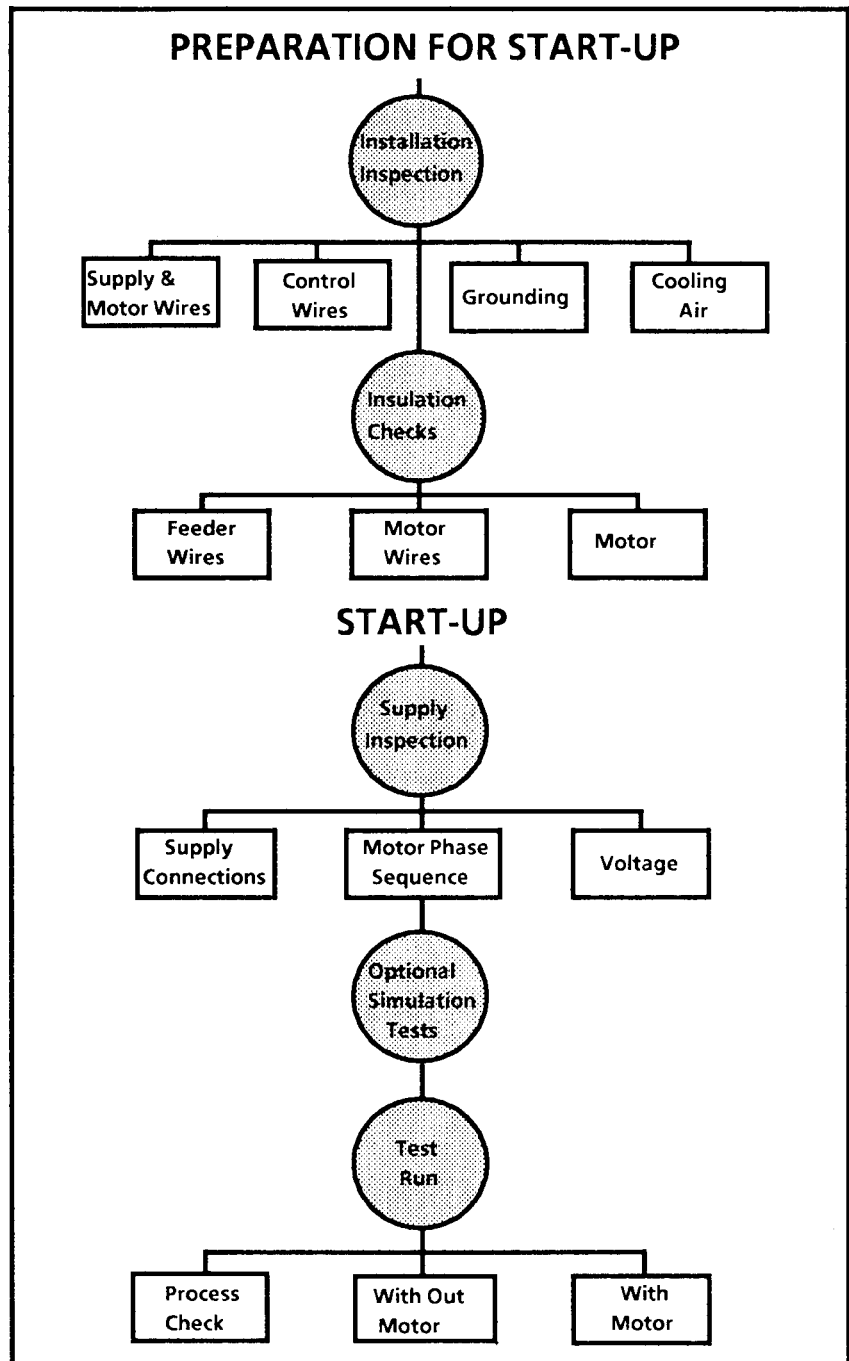

Figure 4-1. Start-Up Sequence
- A. Familiarize yourself with the start-up sequence shown in the block diagram (Figure 4-1)